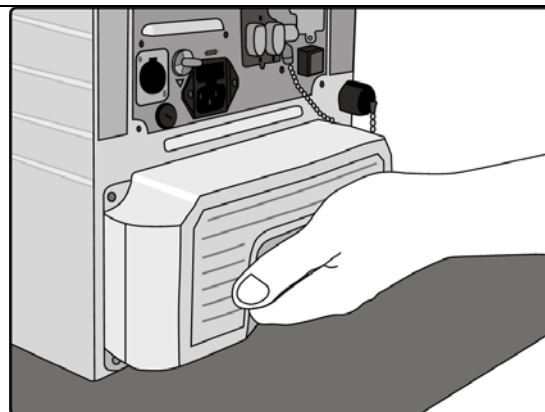

Figure 188: Sliding the Battery In
6. Carefully slide the extended battery into the chassis. Verify that it is properly aligned, as shown in Figure 188.